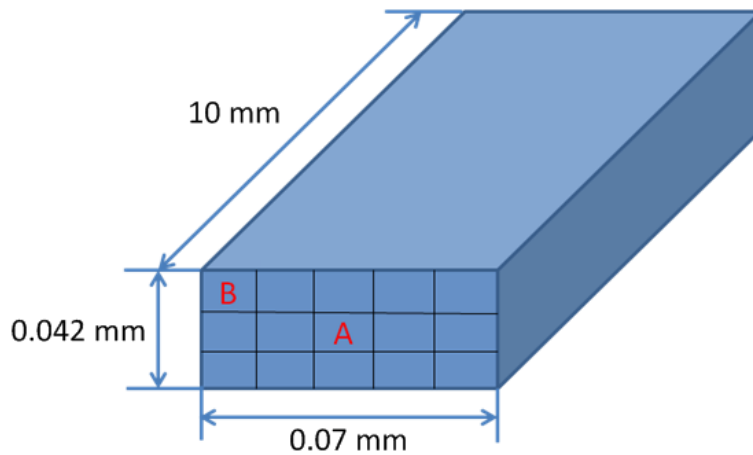

Fig. 2
2. A rectangular bar (copper) is shown in Fig. 2. The size of the bar is also denoted in this figure. Please solve the following problems.
- (c) Plot the current response at filament A and B denoted in Fig. 2 from DC to 500 MHz. The rectangular bar is driven by a 1V AC source.